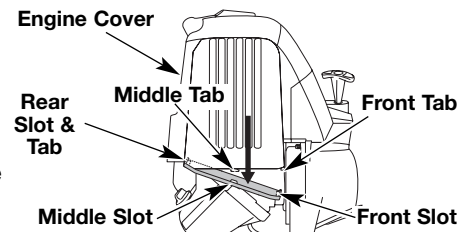

Fig. 32
- Remove the muffler cover by pressing down on it, separating it from the engine cover. Using a flat blade screwdriver, disengage the middle and front tabs and slots first. The cover will hinge off from the rear tab (Fig. 32).
13. Reinstall the muffler cover. Slip the rear tab on the muffler cover into the engine cover rear slot. Then slide the remaining slots into the tabs until they snap into place (Fig. 32).